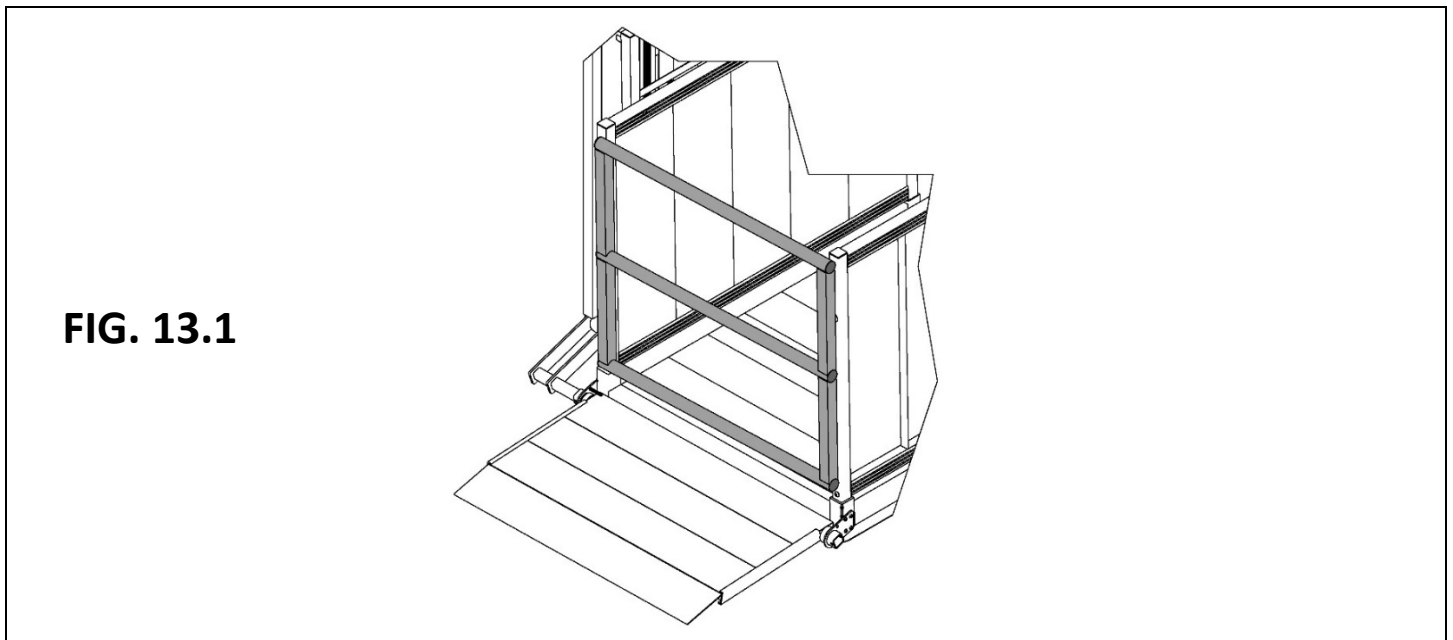

FIG. 13.1
- ▲ The platform gate (FIG. 13.1) is not designed to bear weight. Never hang weight, of any kind, on the platform gate. Damage and possible injury could result.